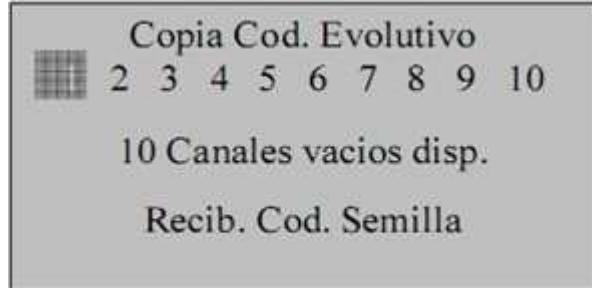

Fig.9
- No display surge “**Recib. Cod. Semilla**” (fig.9);